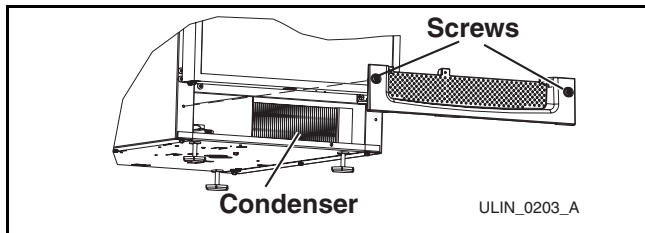

Figure 11. Grille and Condenser
2. Loosen two screws (**Figure 11**) completely.
4. Clean the condenser coil (**Figure 11**) using a soft brush with a "combing" action or vacuum cleaner. Do not touch the condenser coil.